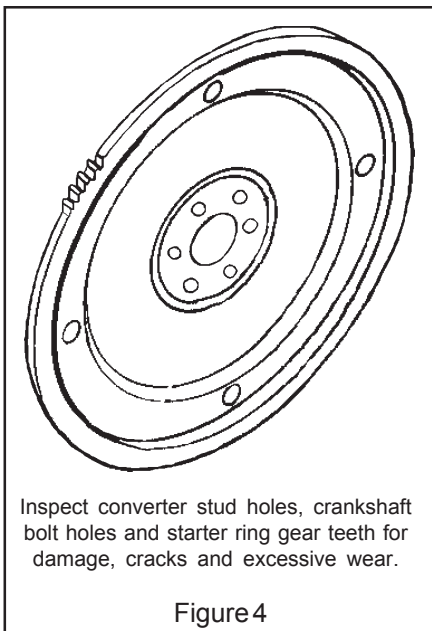

Figure 4
STEP 13. Inspect your flexplate. Check for distortion, excessive warpage or worn/elongated stud holes. (See Fig. 4) The flexplate should not be "dished" backwards. Check condition of starter ring gear teeth. Distorted or worn flexplates should be replaced.